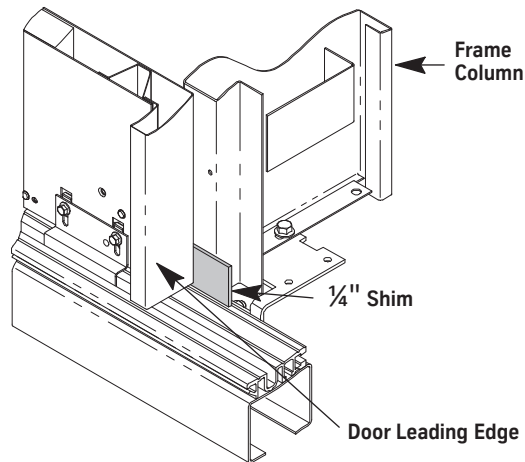

Figure 17- Door-to-Frame Running Clearance
2. Place a 1/4" shim between the bottom of the entrance frame column and the bottom of the leading edge of the door panel. See Figure 17.